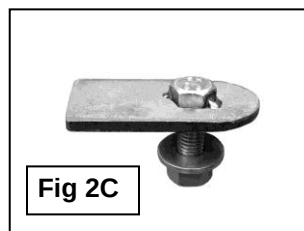
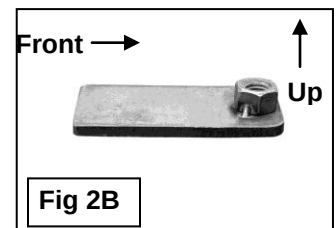

Fig 2C
Fig 2B
- Start installation under the driver side front of the vehicle, (**Figure 1**). Insert (1) 12mm Nut Plate into the large oval opening in the bottom of the frame channel and slide it forward in the frame with the flat side down against the frame channel and welded nut up, (**Figure 2B**). Line up the threaded hole in the Nut Plate with the factory hole at the front of the frame, (**Figure 2A**). Next, insert (1) 12mm Bolt Plate into the large oval opening and center the threaded bolt in the oval hole, (**Figure 2C**).